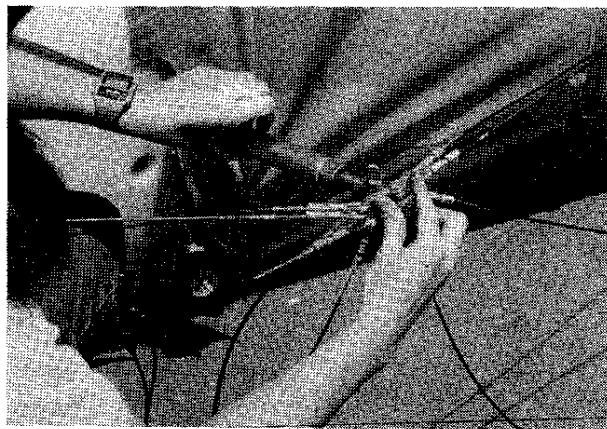

Figure 2.6
10. Thread kingpost into kingpost top fitting. **Figure 2.6**